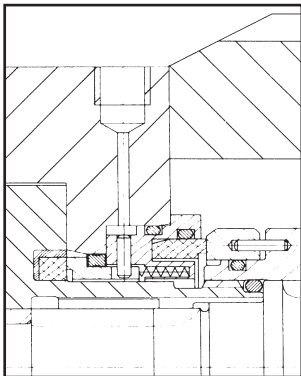

Figure 16
a) To re-assemble, place O- Ring (51) in double seal housing (45), lubricate outside of static seat with a suitable lubricant compatible with the barrier fluid. Align holes in seal face with pins in seal housing (see figure 16) and push seat fully in.
b) Fit O ring (46) to rotor retainer (28). Gently push seal seat squarely on to rotor retainer, aligning hole in rear of seal face with pin on the support ring. Ensure that the face is free to move against the springs.